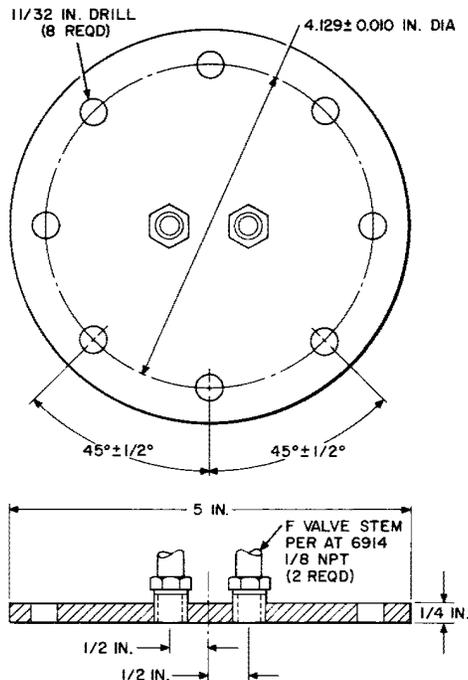

Fig. 4—Test Plate
- (a) Remove the protecting cover from the feedhorn, and bolt the test plate (to be furnished by the contractor) to the feedhorn with a standard "O" ring gasket as shown in Fig. 4.